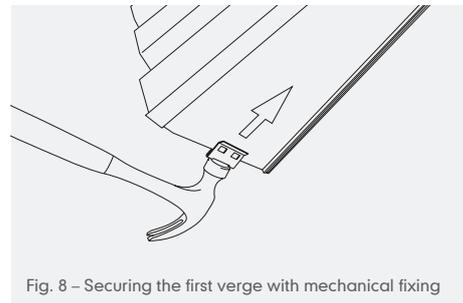

Fig. 8 – Securing the first verge with mechanical fixing
- 8 A gentle hammer tap may be required to assist with this. The spring clip achieves a secure fix at one end by clamping (when engaged fully) to the front of the dry verge (Fig. 8).